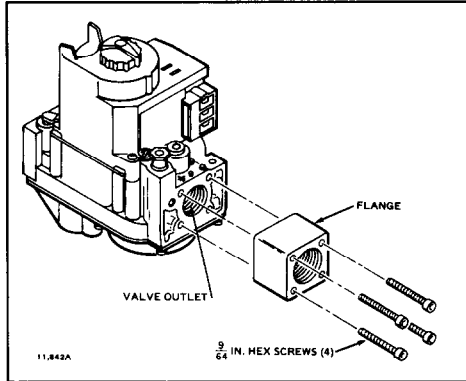

Fig. 1—Fasten flange to valve firmly, but do not overtighten screws.
4. With O-ring facing valve, line up the screw holes on the control with the holes in the flange. Insert and tighten the screws provided with the flange. See Fig. 1. Tighten the screws to 25 in. pounds of torque to provide a gas-tight seal.